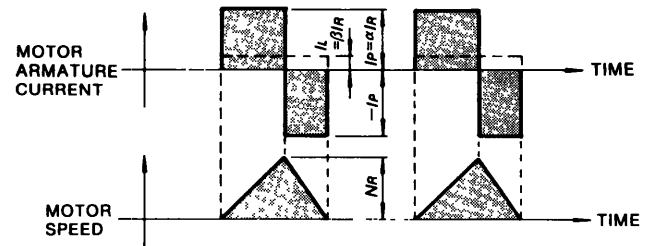

Fig 4.4 Timing Chart of Motor Armature Current and Speed (The motor remains at standstill between cycles of accel/decel without continuous rated speed running)
- When the motor remains at standstill between cycles of acceleration and deceleration without continuous rated speed running (Fig.4.4).
The timing chart of the motor armature current and speed is as shown in Fig.4.4. The allowable frequency of operation "n" can be calculated as follows: